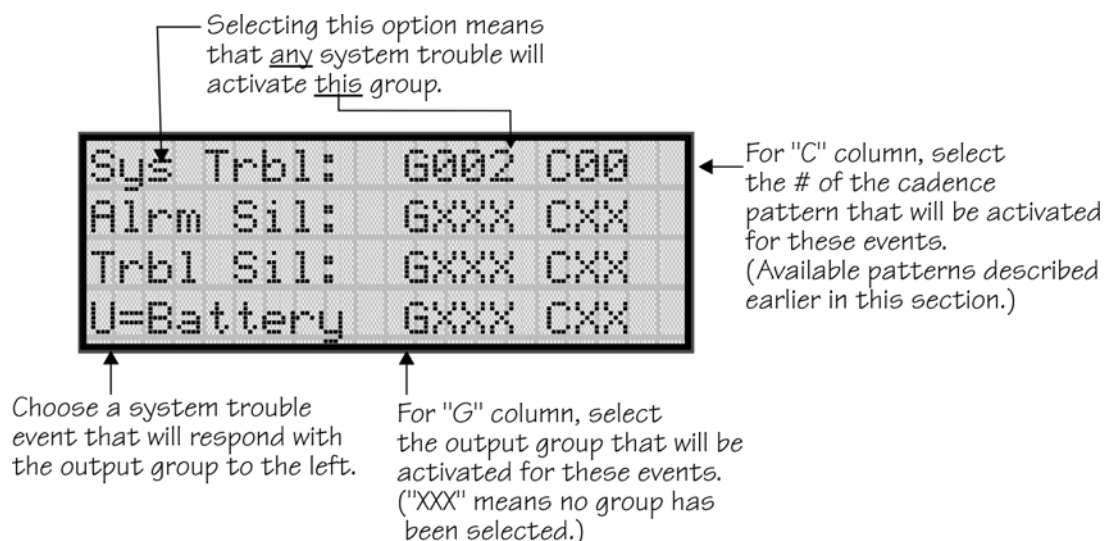

Figure 7-15 System Trouble Event Mapping Example
- Press **[1]** for Trouble Events. A screen similar to the one in Figure 7-15 will display. Select a group and a cadence pattern for each event as needed for your application. The U: field is for a user-specified trouble condition. You can program an output group and cadence pattern for any of the following events: